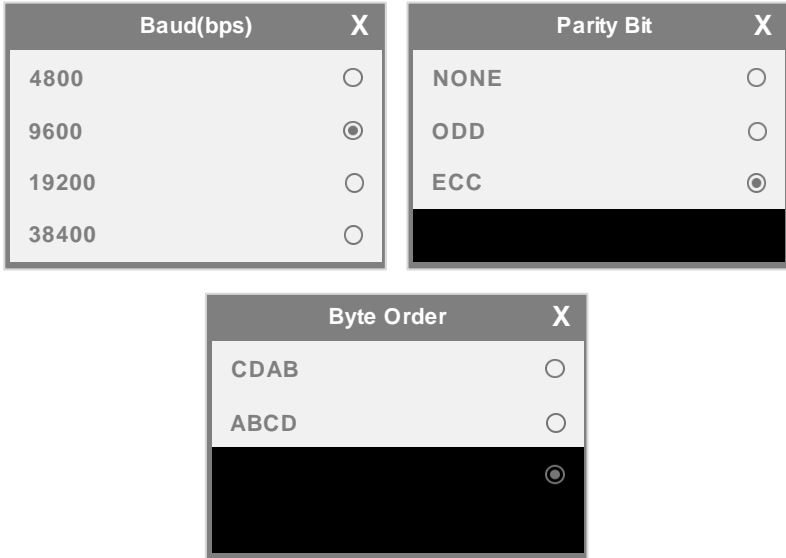

Figure 58 Communication Interface
- 4) The peristaltic pump communicates via RS485, with a default setting of 9600 communication rate, 8 data bits, an even parity check and a stop bit of 1. The parameters can be modified in the common parameters of the communication settings, as shown in Figure 58. When successfully connected, the functions of the pump can be controlled by the communication device.